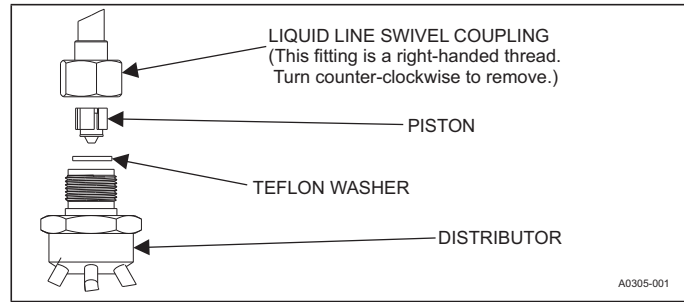

FIGURE 11: Piston Installation
6. Install required size piston into the distributor. Refer to supplied Tabular Data Sheet for specific piston size and indoor coil match up. See Figure 11.
7. Verify that the Teflon washer is still in place in the distributor opening. See Figure 11.